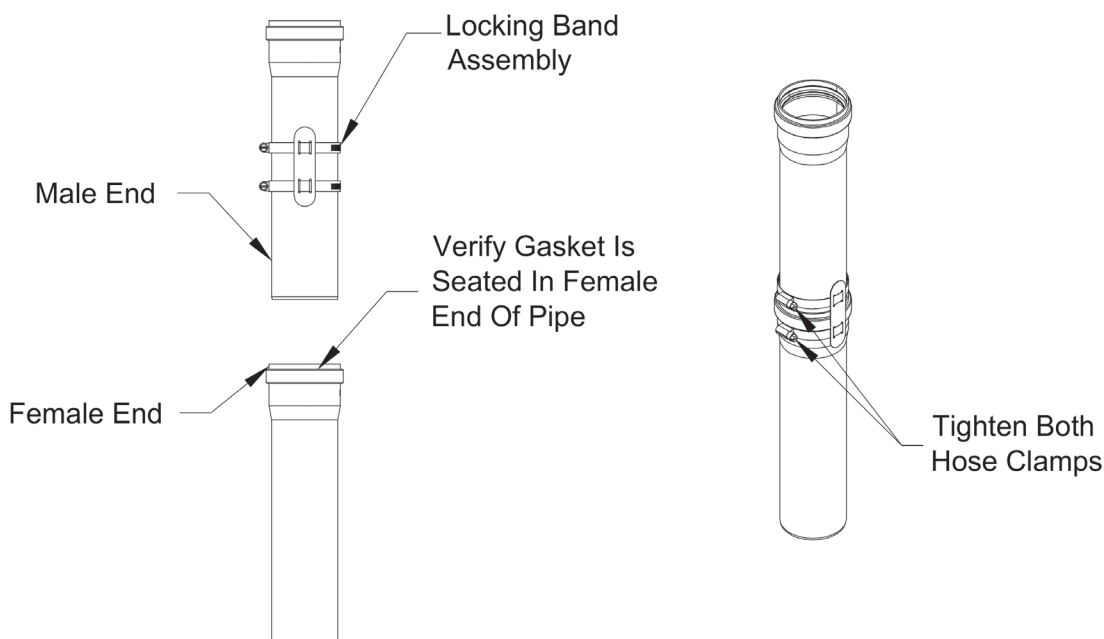

Figure 7.40: Polyflue Pipe Locking Band Installation
- c. For each joint, verify that the gasket is evenly seated in the bell (female) end of the pipe. Lubricate this gasket with mild soapy water. Slide a Pipe Locking Band over the male end of the pipe to be joined as shown in Figure 7.40. Push the male end of the next section of pipe into the bell until it bottoms out, then back out 1/8—1/4" to provide room for thermal expansion. Slide pipe locking band over the female end of the connections and tighten both hose clamps.